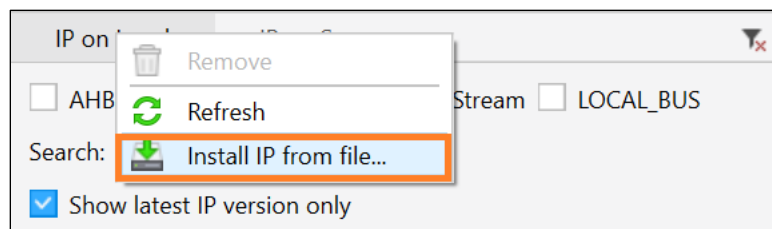

Figure 5.2. Install IP from File
- a. Right-click **IP on Local** and select **Install IP from file...**, as shown in Figure 5.2.